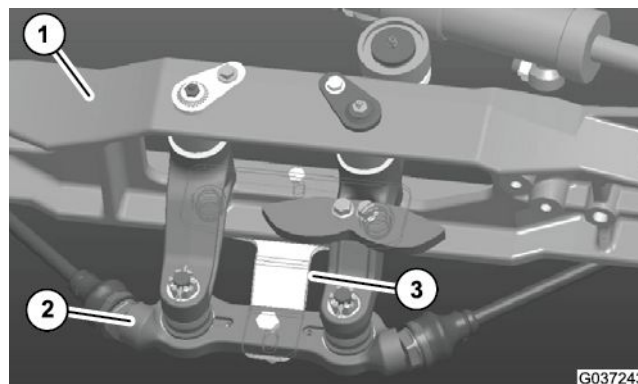

Figure 258
6. Secure the rear alignment tool (refer to Special Tools \(page 6–4\)) to the rear axle and center link (Figure 258). If necessary, use the steering wheel to align the rear steering components with the alignment tool before securing the tool to the machine.